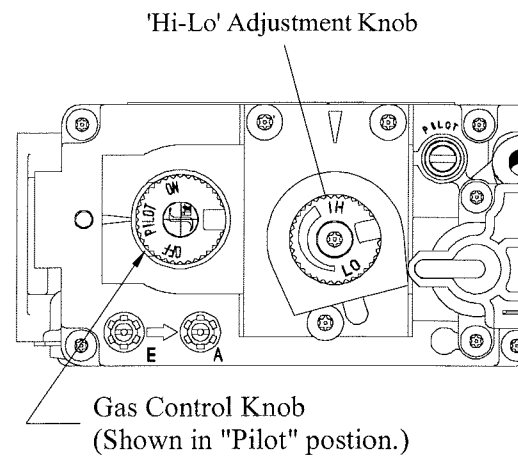

Figure 24. 'Hi-Lo' Adjustment on Model W34-DV gas valve.
The Wildfire is equipped with an adjustable burner, allowing you to raise or lower the flames. To adjust the flames, locate the black knob marked 'Hi-Lo', in the centre of the gas control valve (See Figure 24).
- Have the fireplace installation inspected yearly, including a visual check of the vent system, the burner and the pilot flame. For your convenience a 1/8" manifold pressure tap is supplied on the gas valve for a test gauge connection. See Figure 24.